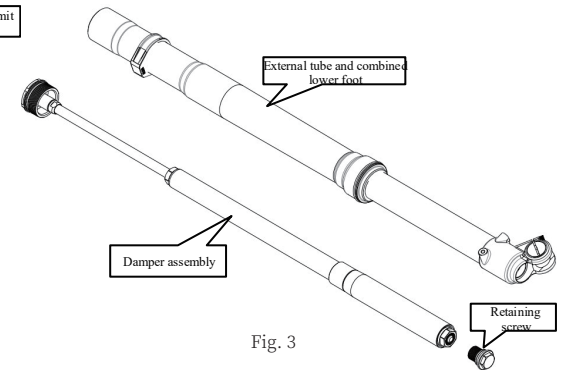

Fig. 3
- A. As shown in Fig. 3, remove the retaining screw at the bottom of the right fork, loosen connection between the external tube and the rebound adjustment base, and remove the damper assembly.